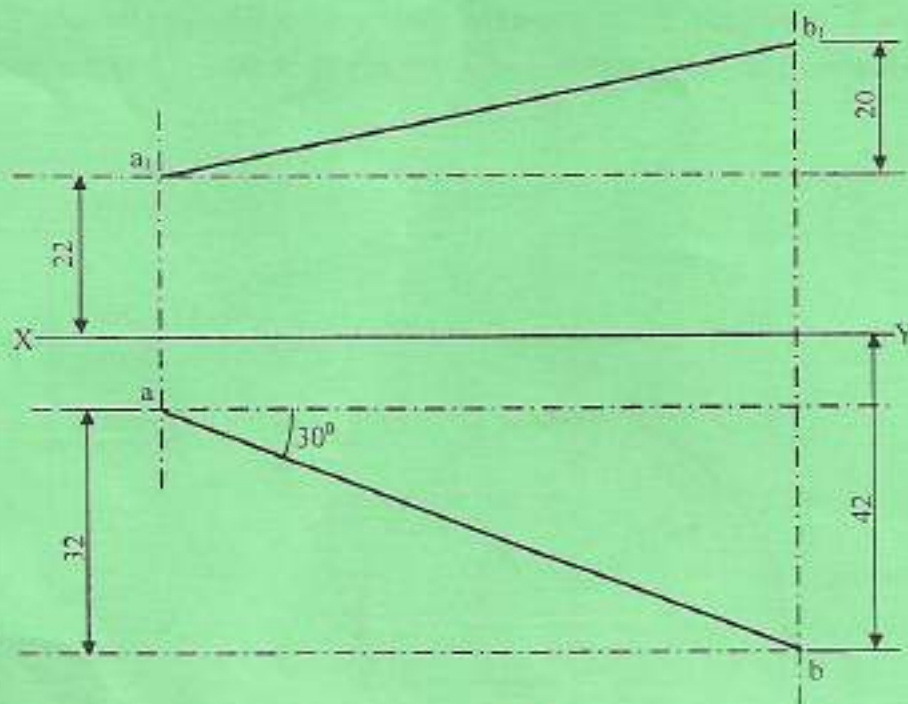

Fig. 4
4. (a) Figure 4 shows the front elevation and plan of a line in space drawn in first angle projection. Determine the true length of the line and the angle between the line and the vertical plane. (6 marks)